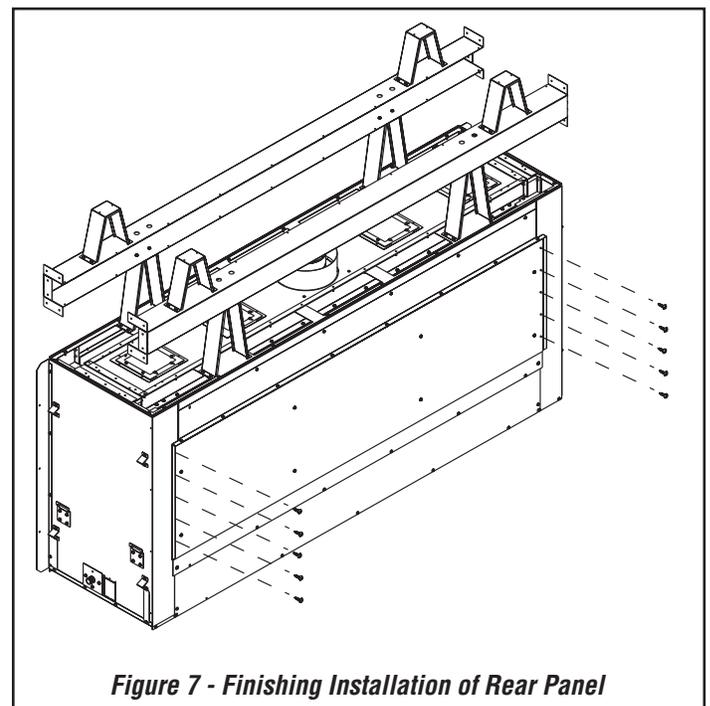

Figure 7 - Finishing Installation of Rear Panel
For one sided regular application, finish installing rear panel by securing with ten (10) self tapping screws included with the fireplace (**Figure 7**).